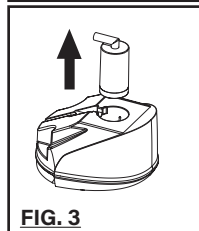

FIG. 3
Step 2 - Take the filter upwards out from the water fill hole. (You can take the filter out of the opening for filling water into water tank, or fill water into water tank directly with the filter existing in the opening). (Fig. 3)